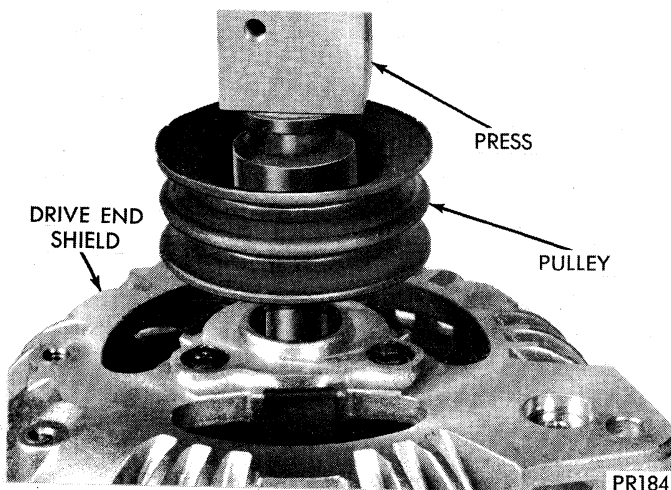

Fig. 31—Installing Pulley
(5) Install pulley on rotor shaft. Shaft of rotor must be supported in a manner so all pressing force is on pulley hub and rotor shaft (Fig. 31). **Press**